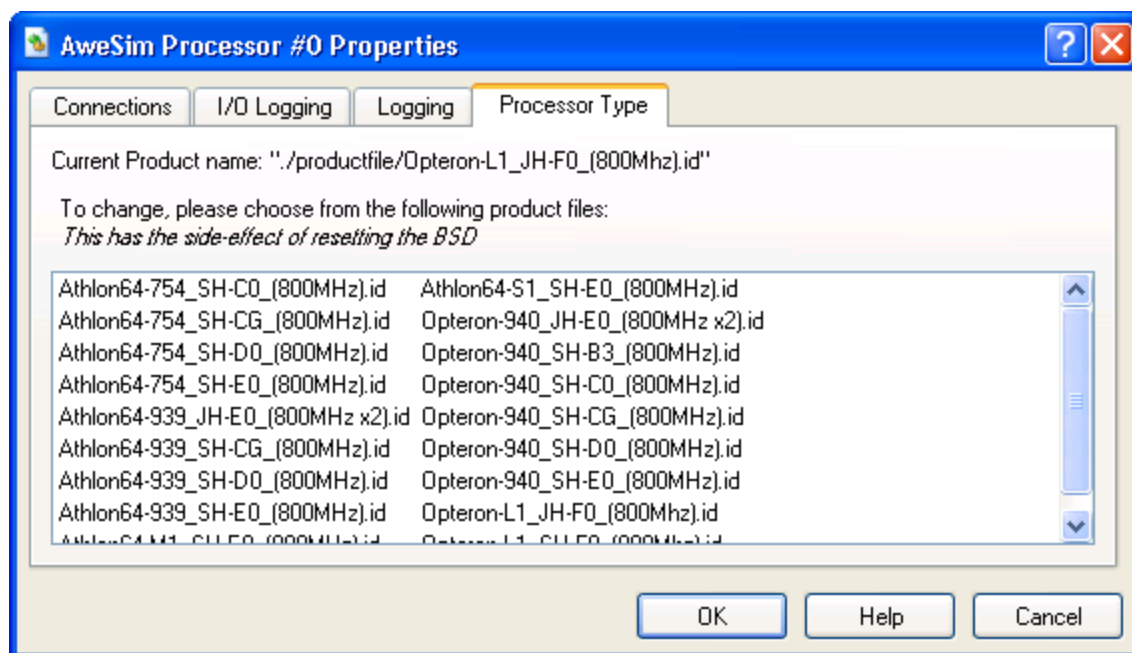

Figure 7-1: AweSim Processor-Type Properties
- Choose the *Ahtlon64-754_SH-C0_(800MHz).id* product file, as shown in Figure 7-1 on page 42.
The *Device Properties Window* is used to set various processor identification and behavior options. Figure 7-1 shows the *Processor Type* tab for the AweSim processor device. Here you can specify which member of the AMD microprocessor family should be simulated. The default is a standard AMD microprocessor. See Section A.2.3, *Product Files (*.ID)*, on page 159.